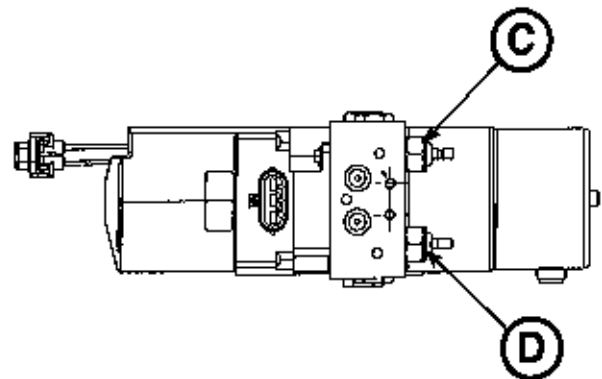

Figure 110
6. Using a 7/8" combination wrench, remove the valve (C or D) to be replaced (Figure 110).